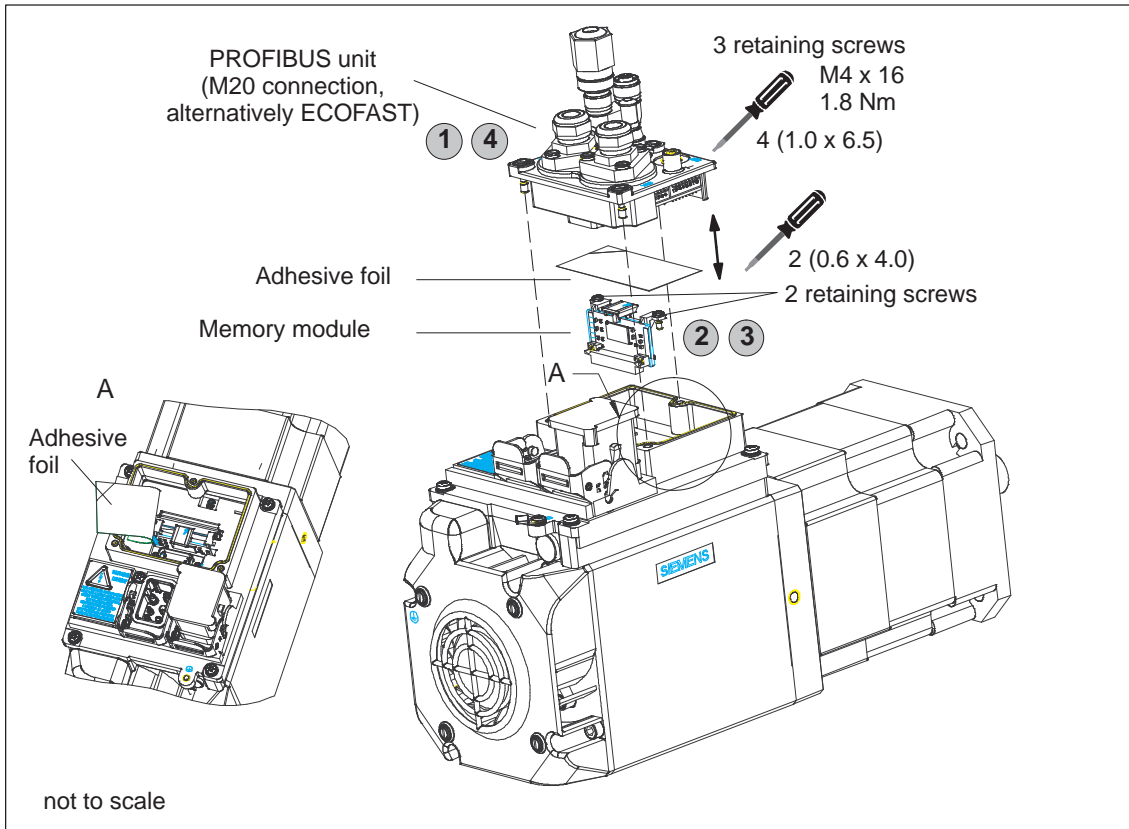

Fig. 8-1 Replacing the memory board for POSMO SI
- ⇒ Release the three retaining screws and withdrawn the PROFIBUS unit (refer to Figs. 8-1 and 8-2)
- POSMO SI —> refer to Fig. 8-1